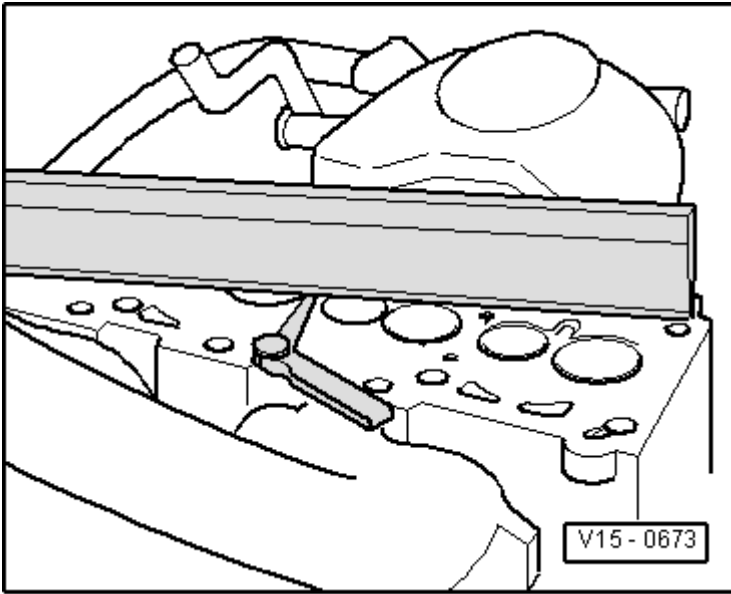

Fig. 4: Identifying Check Of Cylinder Head For Distortion
- Checking for distortion, refer to **Fig. 4**.
- Before installing, insert the washers -item 2- into the cylinder head.